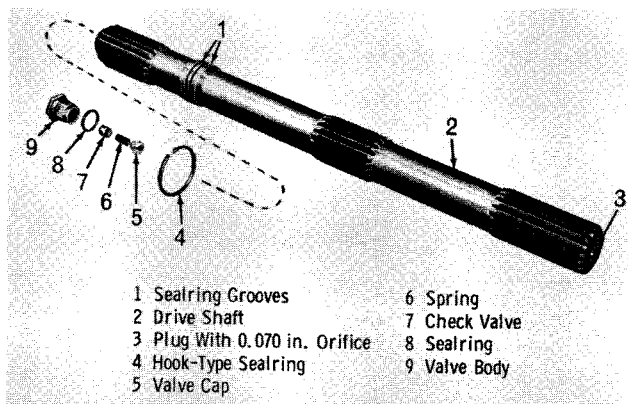

Fig. 5-10. Drive shaft components
(7) Remove the rear washer, outer race and rollers.
(8) Remove the snapping that retains the bearing on the inner race.
(9) Using a press and press plates, remove the bearing and front washer by supporting the front washer and pressing against the end of the inner race.
(10) Remove check valve assembly, items 5 through 9 (fig. 5-10) from drive shaft 2. Remove sealring 8 from the check valve assembly and discard the sealring.
(11) Remove check valve cap 5 (fig. 5-10) from valve body 9 and remove spring 6 and check valve 7.
(12) Remove hook-type sealring 4 from groove 1 in shaft 2.
(13) Do not remove orifice plug 3 from shaft 2 unless necessary. If necessary, unscrew the plug from the shaft.